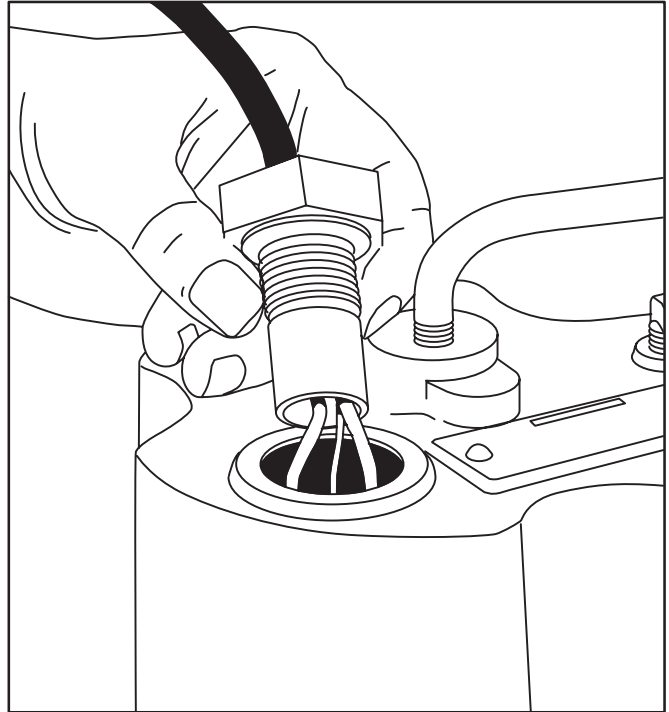

Fig. 14
2. Unscrew cord bushing and remove from housing. Fig. 14
3. Replace with new fitting and cord, be sure "O" ring seal is in place. Fig. 14